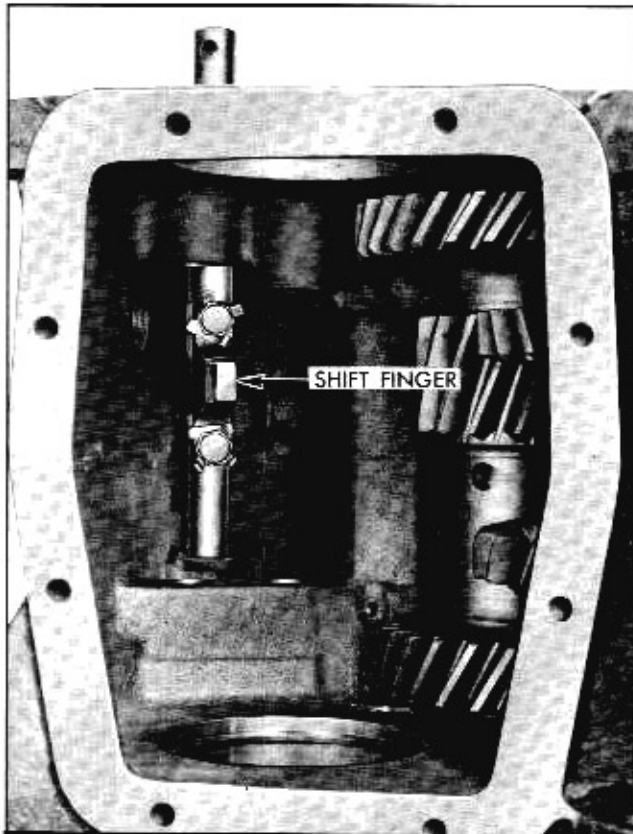

Fig. 7-28 Transmission Shift Finger
14. Remove two cap screws and lock tabs securing shift finger (Fig. 7-28) to manual shift shaft and pull shaft from case.